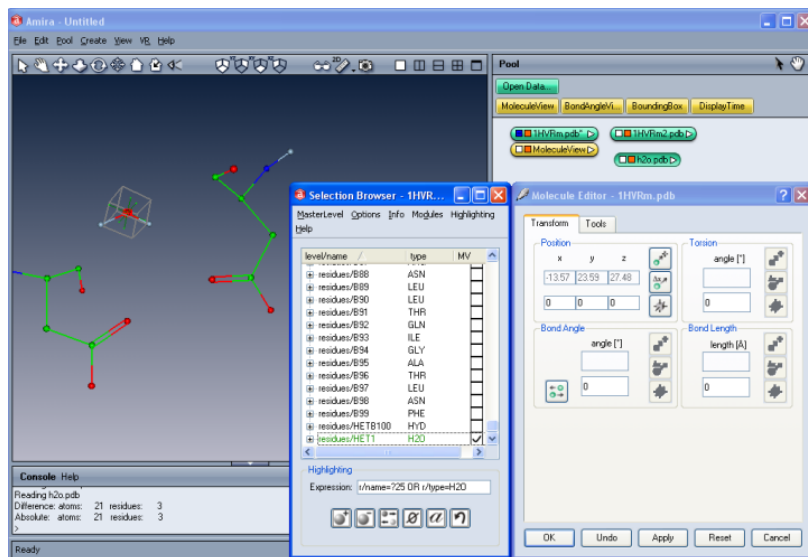

Figure 6.6: Moving the water molecule to the desired location
- Left-click on the dragger and hold the mouse button down. You can now translate the dragger in different planes depending on the side you clicked on. Move the water molecule between the two amino acids as shown in Figure 6.6.